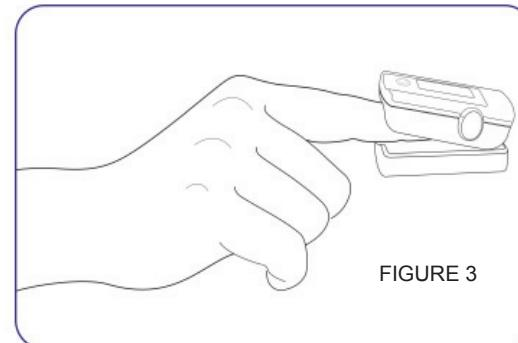

FIGURE 3
3. Insert patient's finger into the View O2 Pulse Oximeter as indicated in Figure 3. Ensure finger is fully inserted, nail surface upward (until it reaches the built-in fingertip stop) and that it is centered in the device to ensure an accurate reading. For optimal results, a clean, unpainted or unbruised nail is recommended. The pulse oximeter is not recommended for use on thumbs or with neonatal or infant patients.